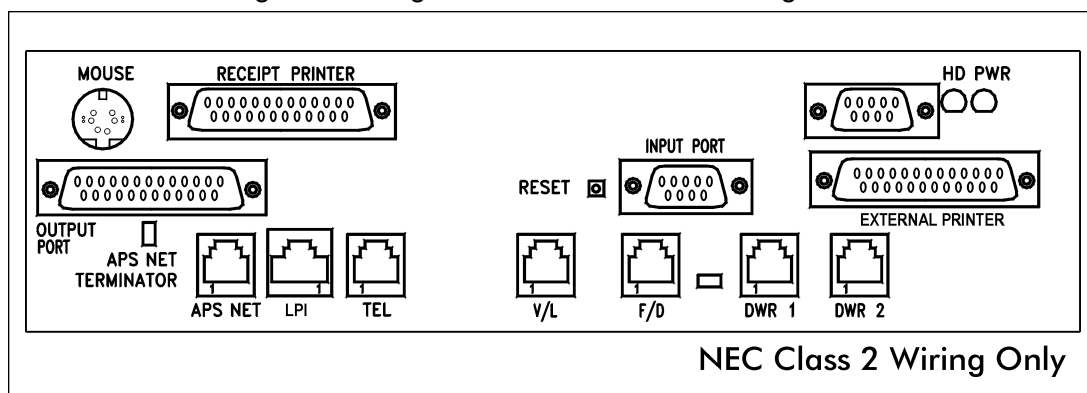

Figure 3-3, Field Wiring Connections
6. Refer to the wiring label or Figure 3-3 below for field wiring connections.